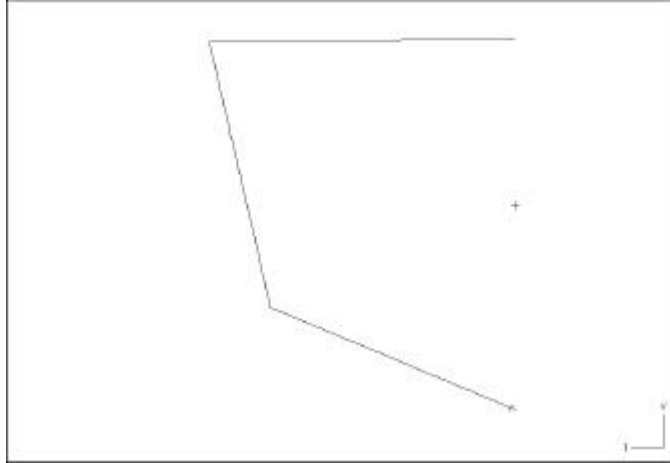

Figure 1-19: Revised Transom Trim curve
14. Switch to **Select** mode. (see figure 1-19)